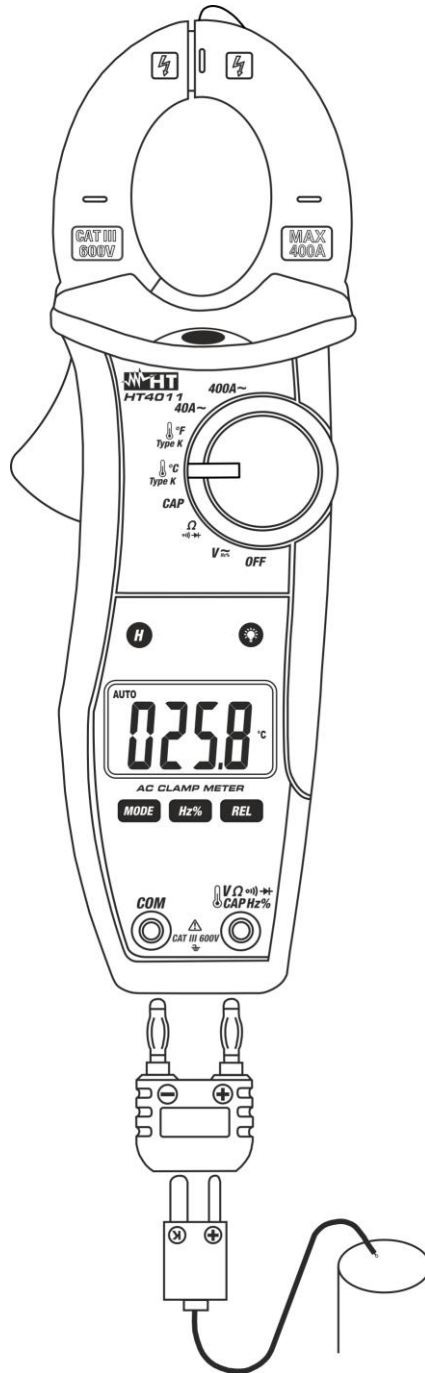

Fig. 9: Use of the clamp for temperature measurement with type K probe
2. Insert the K wire probe provided into input terminal **VΩ** and **COM** by means of the relevant adapter, respecting the polarity indicated in Fig. 9. The display shows the value of temperature.